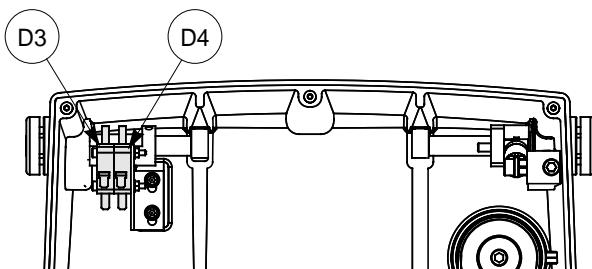

Fig. 130
Protective shield is closed but the display reads "close shield"	a) the closed protective shield is not making proper contact with the microswitch (D3) (fig. 130) b) the F4 fuse on the electronic control board is faulty
b) cutter microswitch on protective cover triggered or disconnected (D4) (fig. 130).